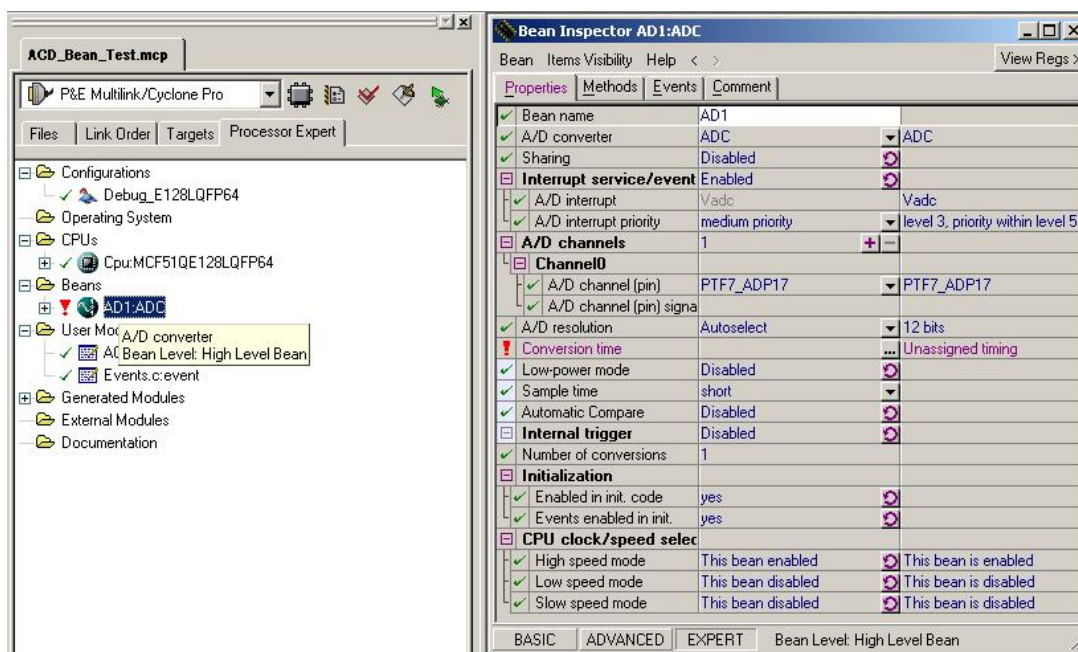

Figure 27. Bean Inspector window - ADC Bean
1. In the Processor Expert tab on the left panel, in the Beans folder, the new ADC bean is displayed (Figure 27).